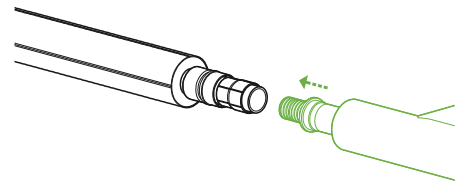

Fig. B11.1.4
6. Place the inner insert of the pre-insulated T-Branch coupler into the pipe end (Fig. B11.1.4).